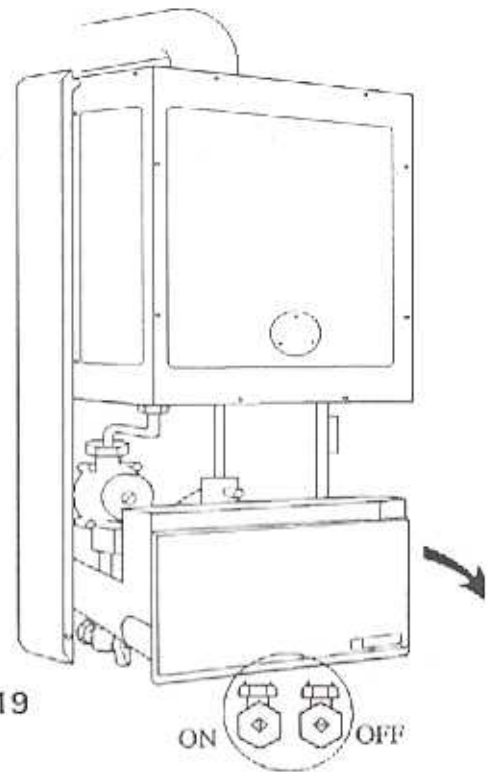

Fig.19
5.7.2 To gain access to the electrical terminals hinge down the spring loaded control fascia. (ref to fig.19) until it rests in an approximately horizontal position.